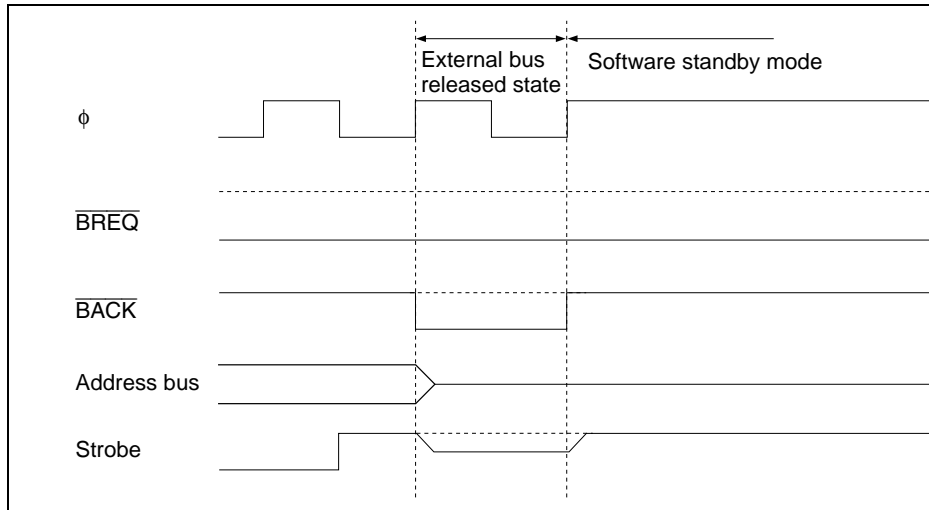

Figure 7.25 Contention between Bus-Released State and Software Standby
- If there is contention with a bus request from an external bus master when making a transition to software standby mode, a one-state bus-released state may occur immediately before the transition to software standby mode (see figure 7.25).